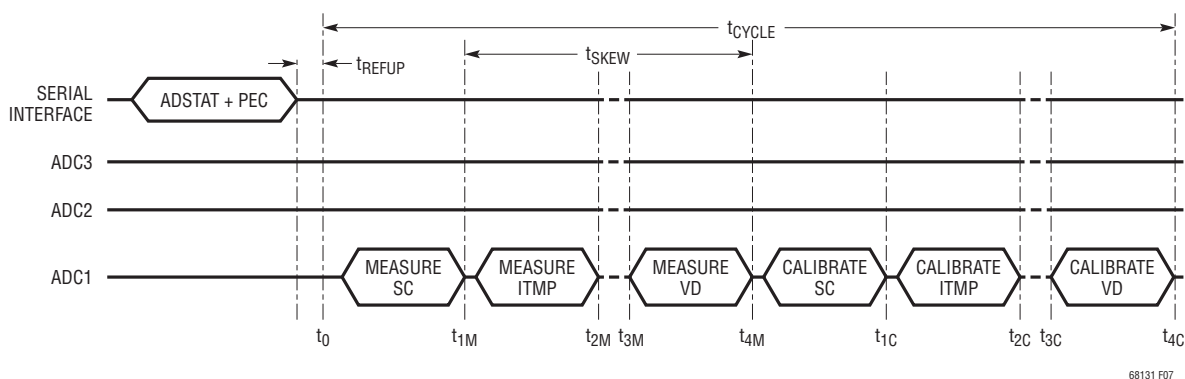

Figure 7. Timing for ADSTAT Command Measuring SC, ITMP, VA, VD
Power Supply (VA) and the Digital Power Supply (VD). These parameters are described in the section below. All the 8 ADC modes described earlier are available for these conversions. See the section on Commands for the ADSTAT command format. Figure 7 illustrates the timing of the ADSTAT command measuring all 4 internal device parameters.